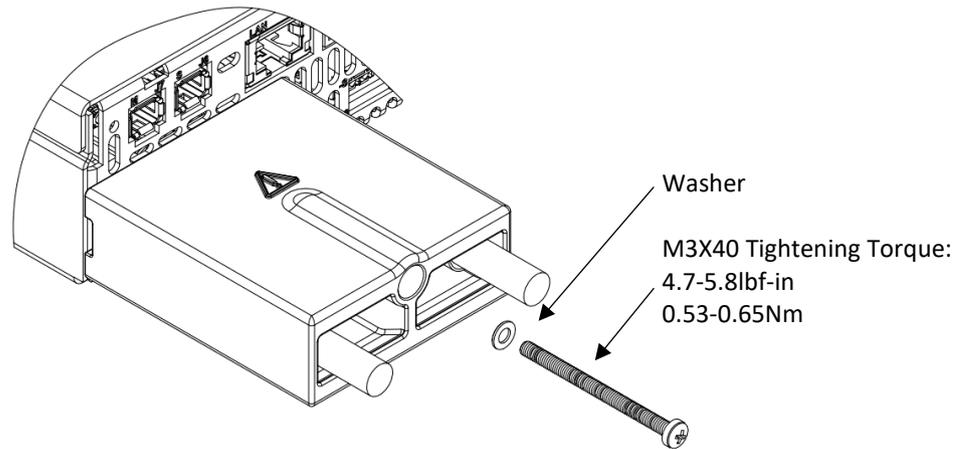

Figure 4-41: Fixing Bus Bars Cover to the Rear Panel
4. Fix the Bus bar cover to the rear panel of the power supply using M3X40 Sems screw from the accessories kit, as shown in Figure 4-41.